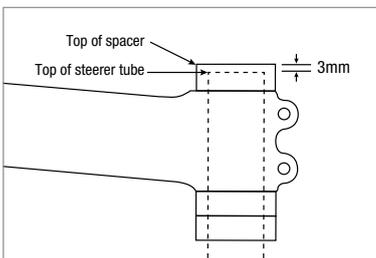

Figure 8
**NOTE:** After cutting, the steerer tube must be 3 mm below the 10 mm spacer to allow top cap installation (Fig. 8). Refer to the two different directions below for cutting either carbon or alloy/steel.